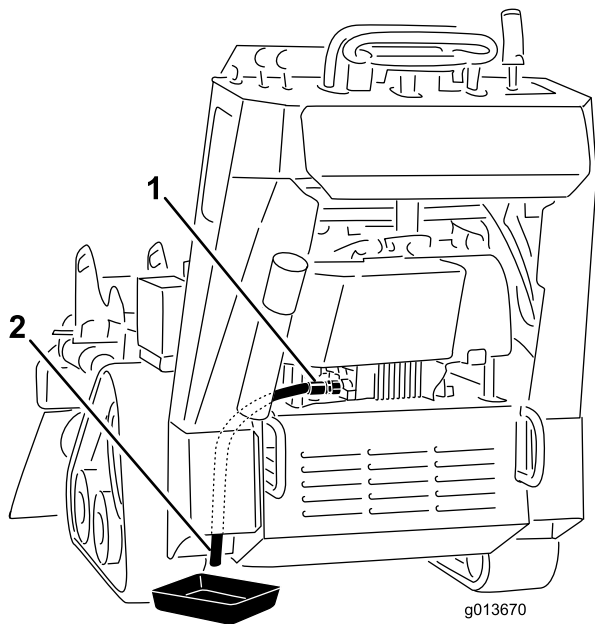

Figure 33
- Place a pan below the drain hose. Rotate the oil drain valve to allow oil to drain (Figure 33).